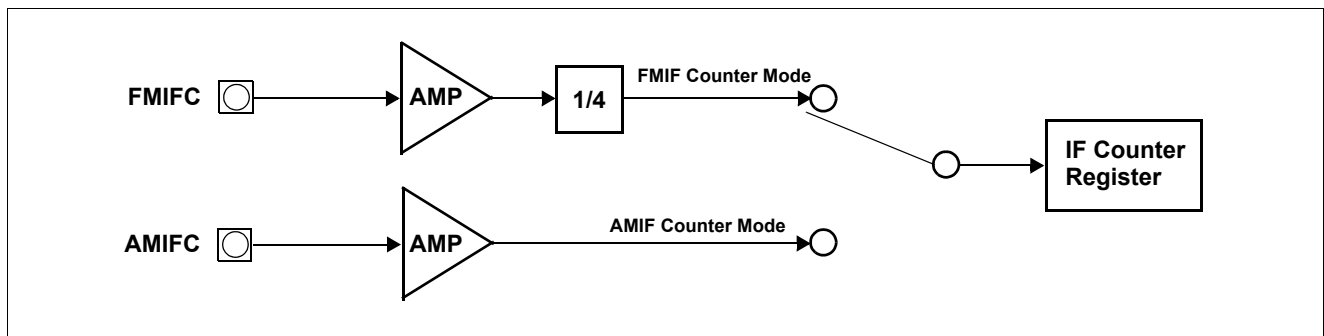
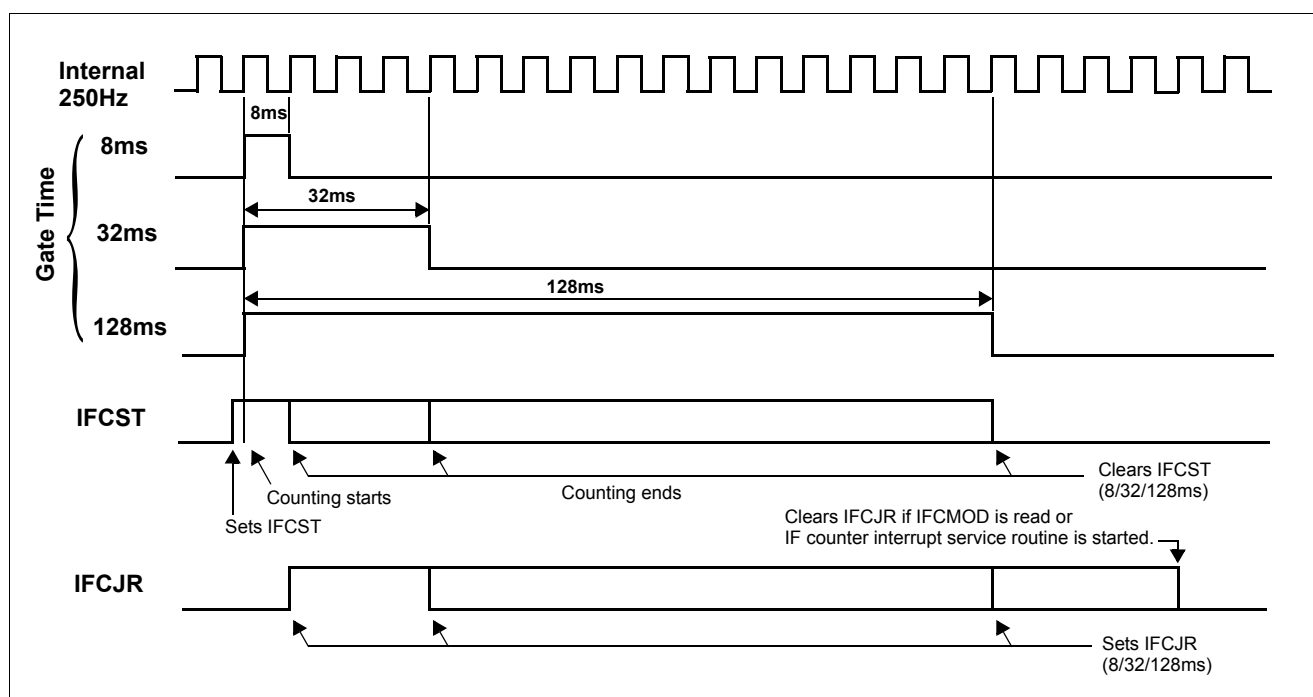

Figure 3-34 Input Pin and Mode Selection Block Diagram
Figure 3-35 Gate Timing of Frequency Counter
- (1) Select an input pin, mode and gate time using the IF counter mode register. Figure 3-34 shows a block that selects an input pin and mode.
- (2) Set IFCCLR bit of the IF counter mode register to 1, and clears the data of the IF counter register.
- (3) Set IFCST of the IF counter mode register to 1.
(4) The gate is opened only for the set gate time since 1KHz internal signal has risen after IFCST was set. If the gate time is set to be opened, the gate is opened as soon as it has been specified to be opened. IFCJR of the IF counter gate judge register is automatically set to 1 as soon as IFCST has been set to 1. When the gate time has expired, IFCJR bit of the IF counter gate judge register is automatically cleared to 0. If it is specified that the gate be open, however, IFCJR is not automatically cleared. In this case, set a gate time. Figure 3-35 shows the gate timing of the frequency counter.
(5) While the gate opens, the IF counter register counts the input frequency of the selected AMIFC or FMIFC pin. If the FMIFC pin is used in the FMIF count mode, however the input frequency is divided by quarter before it is counted.